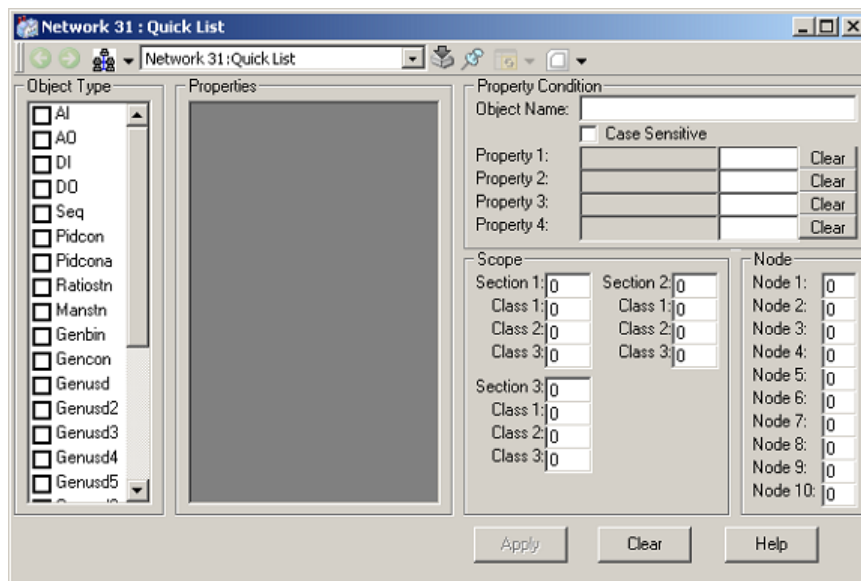

Figure 10. Quick List Config View
2. Select the Config View from the tool bar panel on top of the aspect window. The configuration view is shown as in Figure 10.